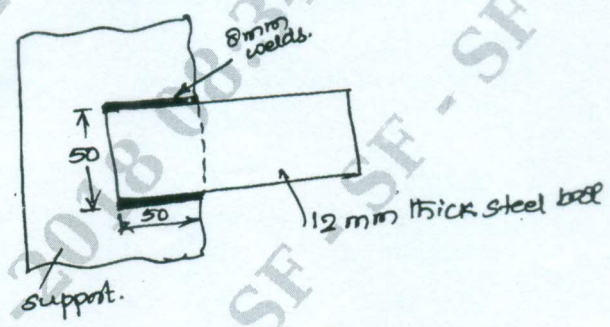

Fig Q7(b)
- b. The Fig Q7(b) shows as horizontal steel bar 12mm thick, loaded in tension and welded to a vertical support. Find the load p that will induce a shear stress of 60MPa in the welds.